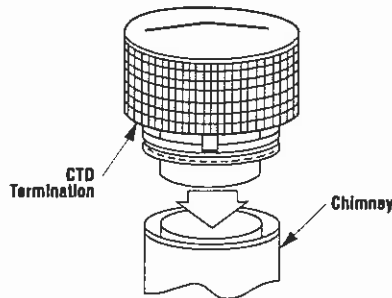

Figure 31
1. Hold the FTF10-CTD over top of last chimney section (Figure 31).